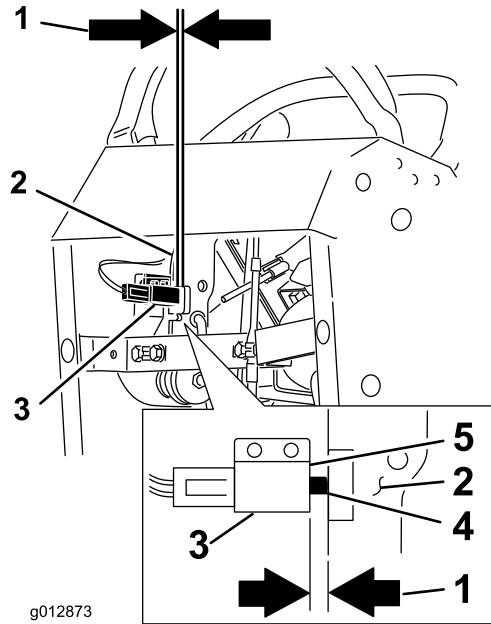

Figure 64
12. Check the gap between the brake lever and the face of the switch as shown in Figure 64. The gap needs to be an 1/8 inch (3mm) with the brake **engaged**.